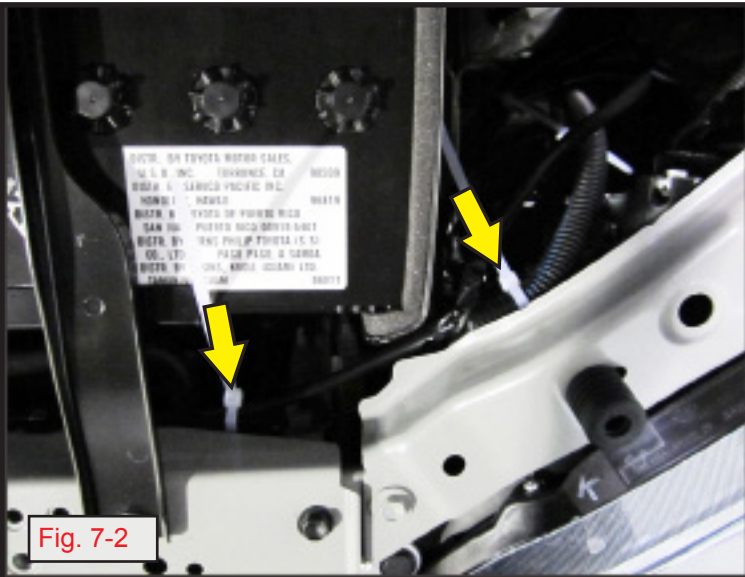

Fig. 7-2
b. At the front of the battery, secure the wire harness to the hood-latch cable with two (2) wire ties as shown (Fig 7-2).